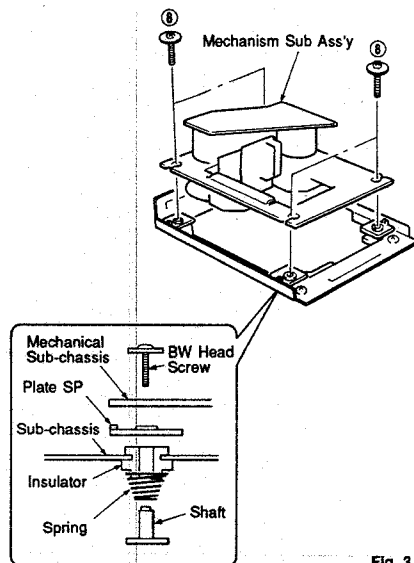

Fig. 3
- Remove the Mechanism Sub Ass'y by removing 4 screws (⑧) in Fig. 3.